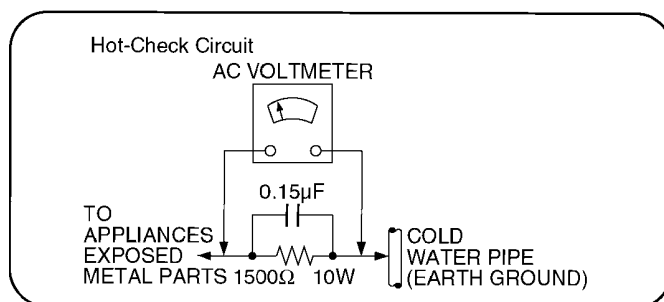

Figure 1
1.1.2. LEAKAGE CURRENT HOT CHECK (See Figure 1)
2. Connect a $1.5k\Omega$, 10 watts resistor, in parallel with a $0.15\mu F$ capacitors, between each exposed metallic part on the set and a good earth ground such as a water pipe, as shown in Figure 1.